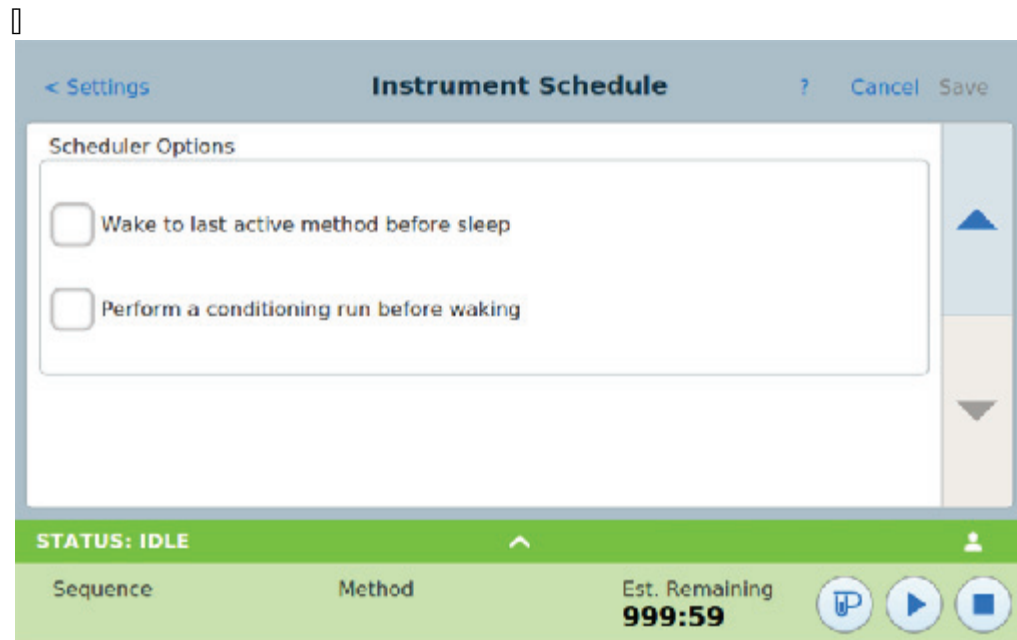

Figure 69. [Scheduler Options area]
- 3 [[Scroll to the Scheduler Options area. See **Figure 69**].]